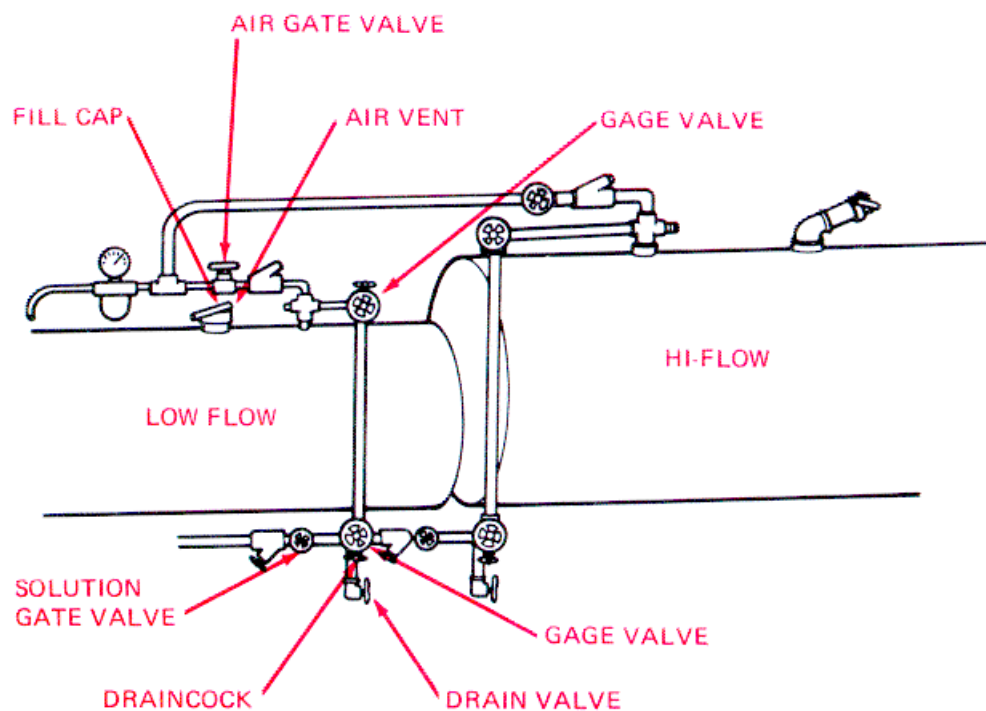

Figure 2-22. Filling the Low-Flow Admix Tank.
b. Putting Solution into the Low-Flow Tank. (See fig. 2-22).
- (1) Close the air gate valve, the solution gate valve, and the drain valve. (Turn them all the way clockwise.).
- (2) Open the two gage valves. (Turn them all the way counterclockwise). Be sure the draincock and vent on the gage valves are closed.